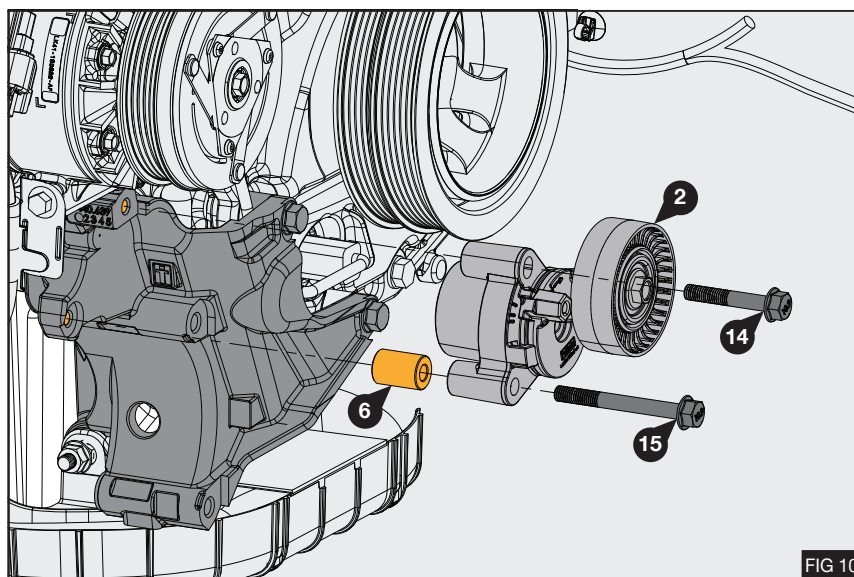

FIG 10
10. Install the automatic belt tensioner (2) using 1x M8x50 bolt (14) and M8x75 bolt (15) with spacer (6) - Fig 10
• Torque bolts (14), (15) to 21.4 lb.ft / 29 Nm